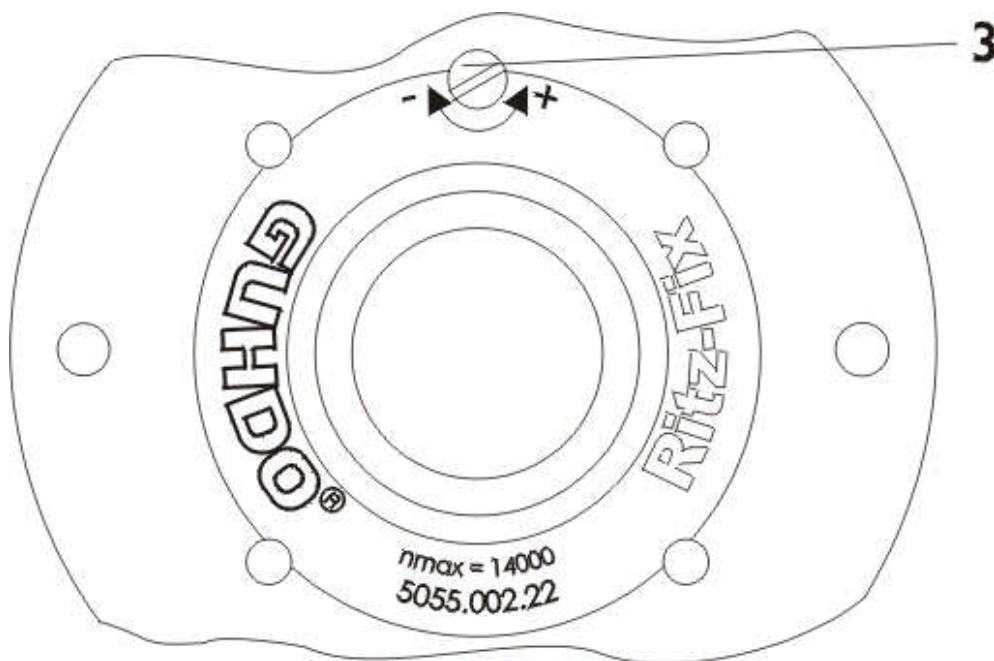

Fig. 2: View of the Ritz-Fix-face
To increase / decrease the groove width, turn the adjuster screw (3) in the appropriate direction (marked + / -) (fig. 2).